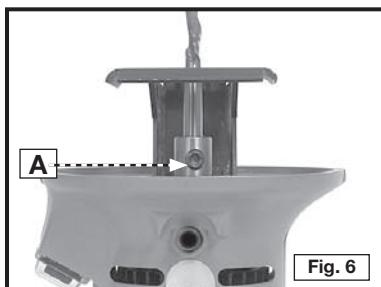

Fig. 6
1. Clean and insert a bit shank into the Cutout Tool spindle (Fig. 6). The bit shank must extend at least 1/2" into the spindle.
3. Firmly tighten the screw (A) Fig. 6.